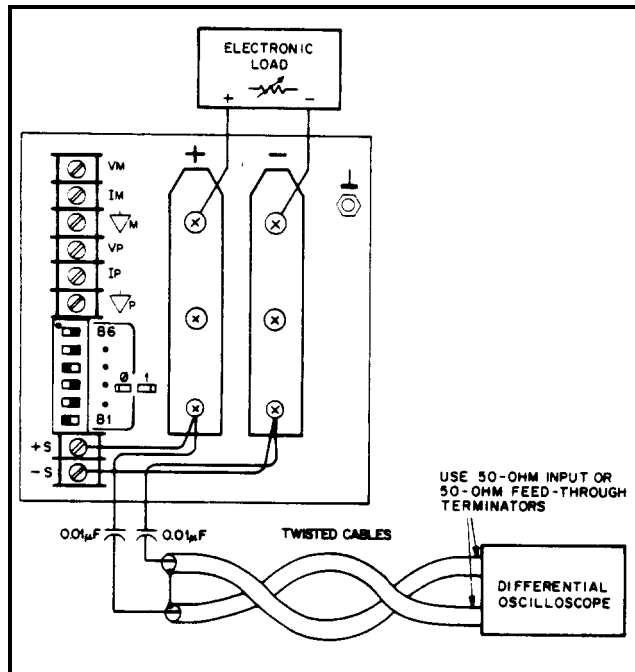

**Figure 2-6. RMS Measurement Test Setup, CV PARD Test**
**RMS Measurement Procedure.** Figure 2-6 shows the interconnections of equipment to measure PARD in Vrms. To ensure that there is no voltage difference between the voltmeter's case and the unit's case, connect both to the same ac power outlet or check that the two ac power outlets used have the same earth-ground connection.
- a. Connect the test equipment as shown in Figure 2-6. Operate the load in constant resistance mode (Amps/Volt) and set resistance to maximum.